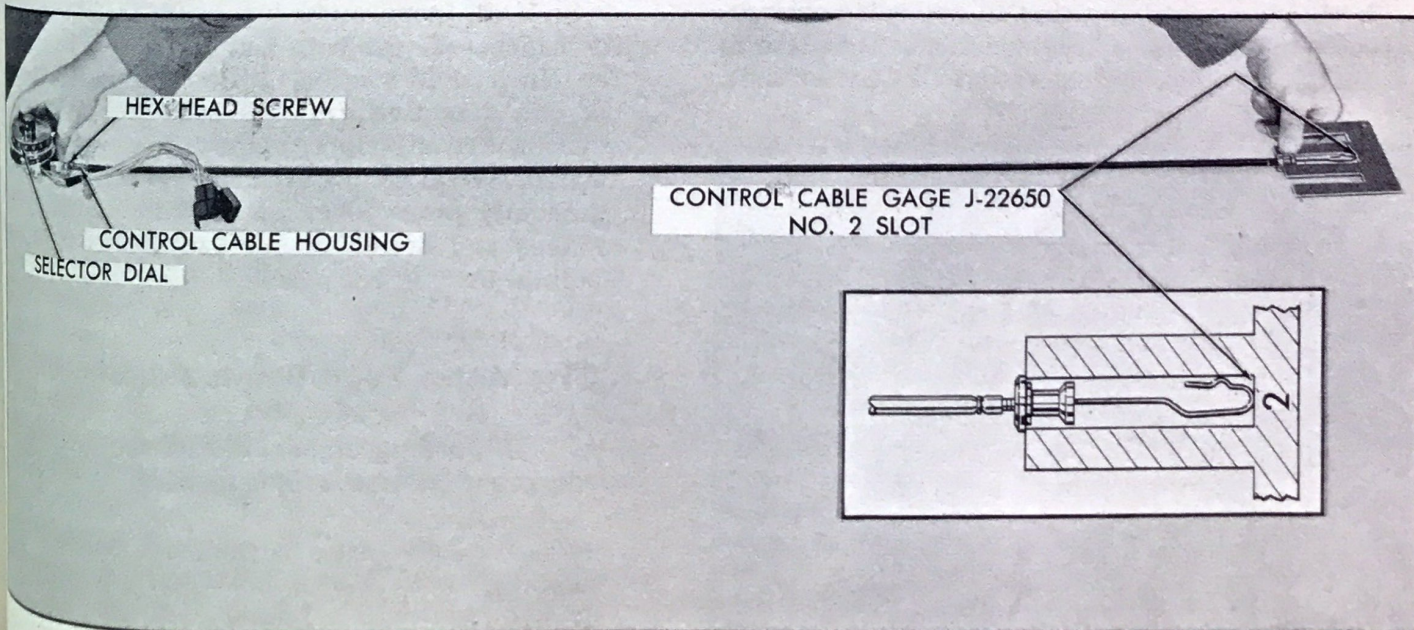

Fig. 15-14 Control Cable Adjustment (All Except 693 Styles)
5. On all but 693 style, thread control cable housing until it is approximately half-way out of control cable clamp. Position No. 2 center slot of Control Cable Gage, J-22650, so that end of hook touches stop on gage. Hold hook and gage in this position and thread toward selector control assembly until gage bottoms on ferrule of control cable. While holding in this position, tighten hex head set screw at control cable clamp, Fig. 15-14.